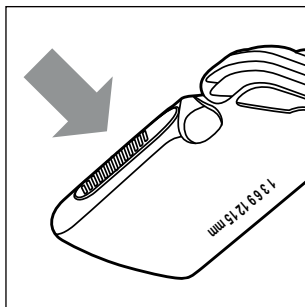

Fig. 5
- ▶ Press the button, when you push the comb attachment 10/11 upwards or downwards (see fig. 5). This makes it easier to release the comb attachment 10/11 from the catch and move it.
- ▶ Press the upper side of the button, when you push the comb attachment **10/11** upwards or downwards (see fig. 5). This makes it easier to release the comb attachment **10/11** from the catch and move it.